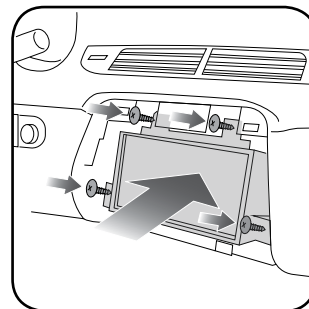

Fig. 2.4
7. Insert the radio into the dash and secure the metal brackets with (4) 7mm screws removed during disassembly. (Fig. 2.4)